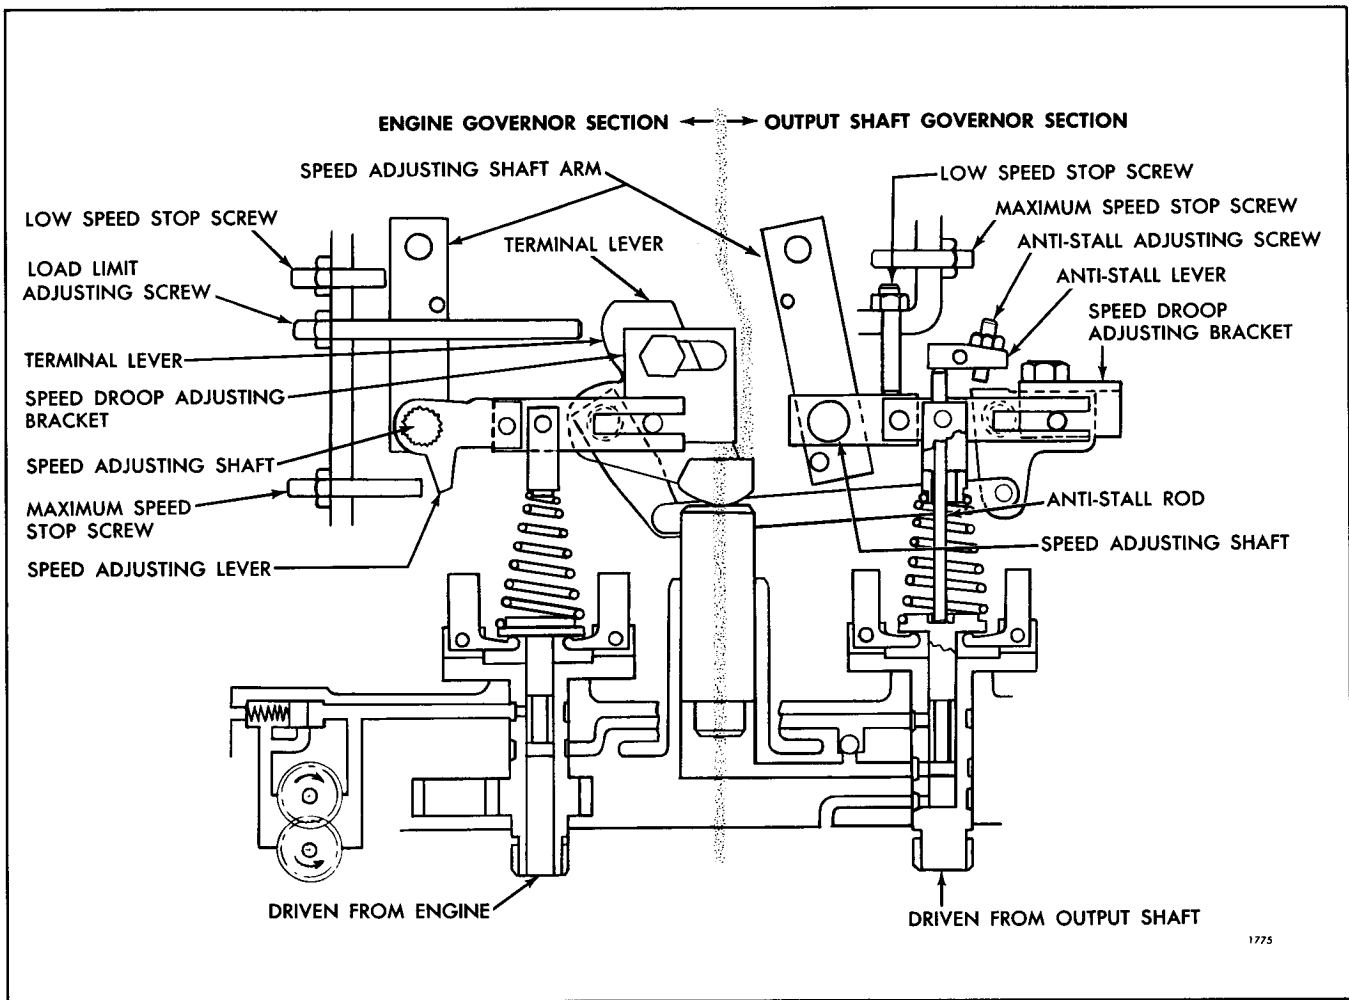

Fig. 2 - Schematic Diagram of Two Lever Governor Assembly
1. Remove governor cover. Refer to Fig. 2 of Section 14.7.1 and loosen all inner adjusting screws (270) and outer adjusting screws (271). Be sure all injector rack control levers (267) are free on the injector control tube.
Adjust No. 6 injector rack control lever (267), Fig. 2 of Section 14.7.1, first to establish a guide for adjusting the remaining rack control levers.
1. Turn outer adjusting screw (271), Fig. 2 of Section 14.7.1, in until a slight movement of the injector control tube lever (265) is observed. Tighten inner adjusting screw (270).